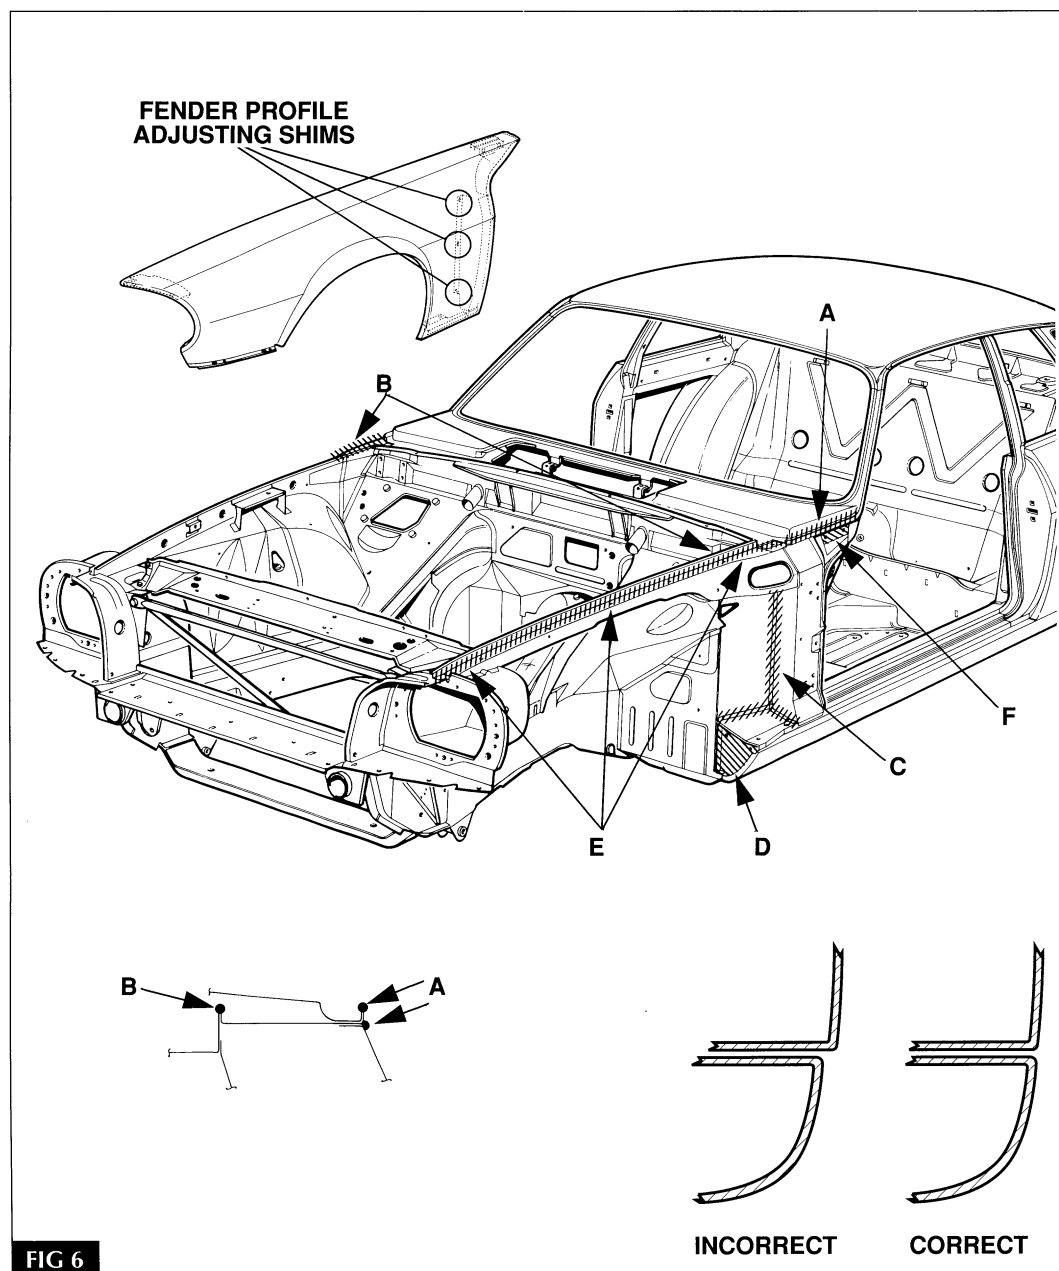

FIG 6
- Apply SEALANT A to the body joint between the windshield panel and the "A" post [A, FIG 6].
- Apply SEALANT A to the exposed flange joints at the rear of the hood opening [B, FIG 6].
- Apply SEALANT A to the panel joints between the "A" post, the rocker panel, and the inner fender [C, FIG 6].
- Apply undercoat material to the front of the rocker panel [D, FIG 6].
- Before installing the fender, apply SEALANT A to the upper fender mating surface along the inboard edge of the fender and around the screw holes [E, FIG 6]. Also apply SEALANT A between the angle bracket and the "A" post [F, FIG 6].
If the door[s] require adjustment, it is recommended that door adjustment be accomplished first and the fender adjusted if necessary during installation. Refer to page 16 for door adjustment. In order to match the profile of the fender to the door, it may be necessary to place shims between the fender and the "A" post at the three rear screws. Fabricate 1/16 in. shims for this purpose [FIG 6]. To avoid stone chipping of the fender edge, ensure that the fender to rocker panel profile is matched as shown [FIG 6].